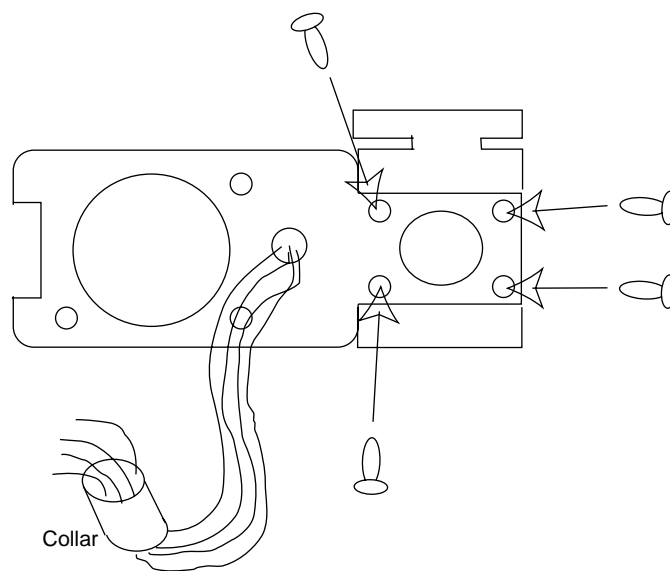

Figure B-7. Re-mounting Motor Base Plate
12. Install the base plate using the four removed screws (see Figure B-7).
13. Install the wires. Place the wires through the hole and collar (see Figure B-7).